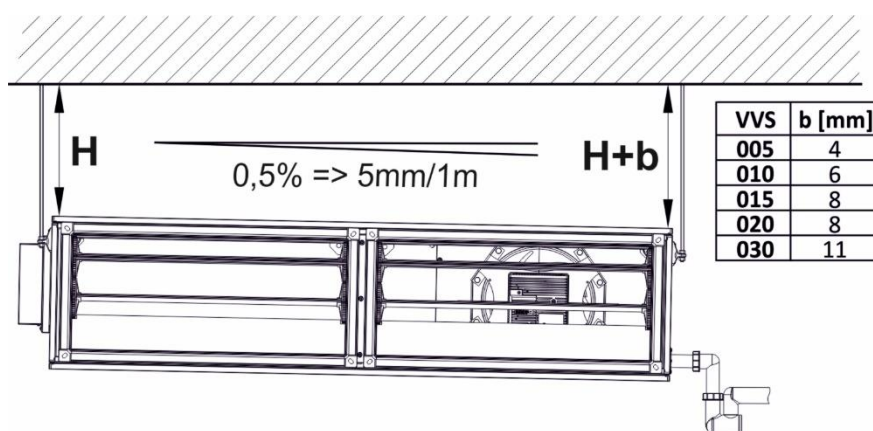

Fig.6a Leveling of the recovery section
4. All units must be installed level – only the recovery section with counter - flow heat exchanger must be installed with a 0.5% drop in the direction of the drain pipe (fig.6a)